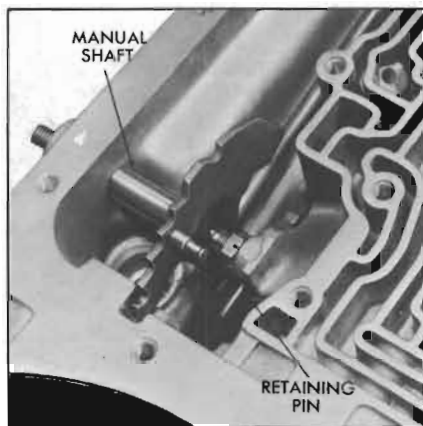

Figure 74-770
6. Install retaining pin indexing with groove in manual shaft. See Figure 74-770.